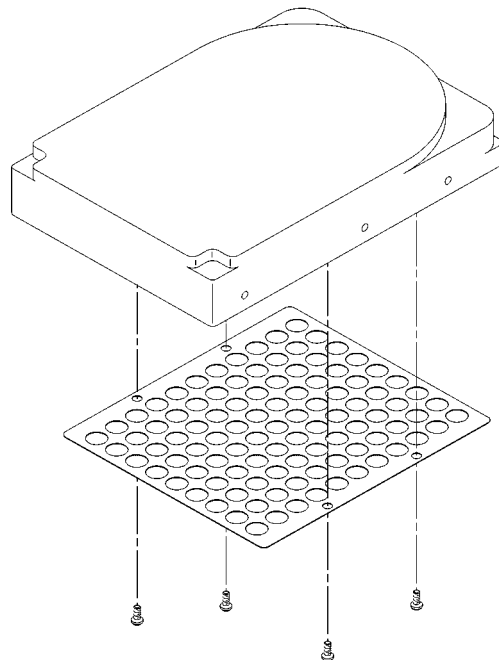

Figure 23
- 2 From the accessory hardware kit which came with your workstation, locate the disk shield and four screws. See Figure 23.
- 3 Use the four screws to mount the disk shield on the drive, as shown in Figure 23.